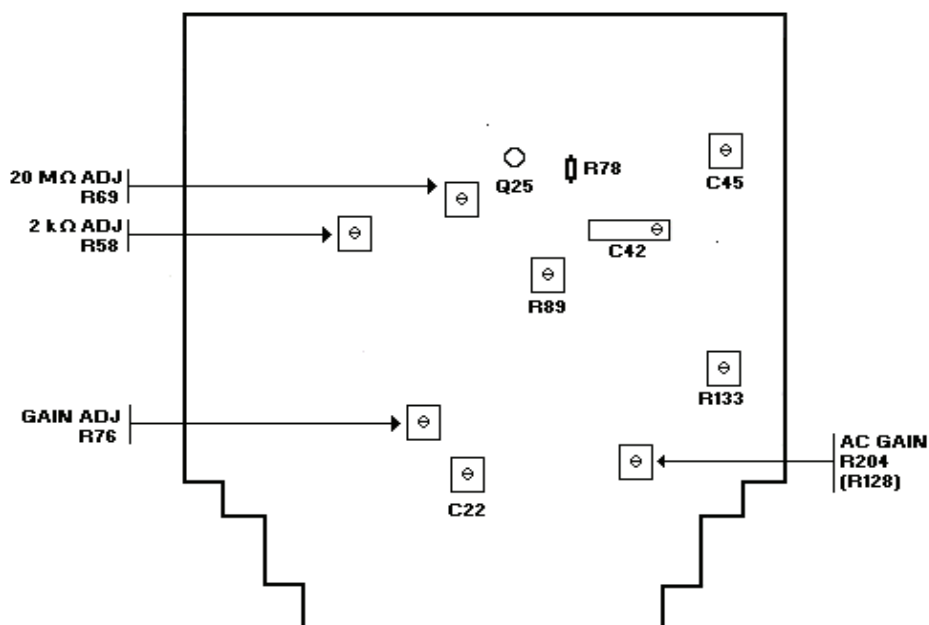

Figure 1. Adjustment locations bottom view (models 3465A and 3465B).
b. Adjustments. Adjust GAIN ADJ R76 (fig. 1) for a TI indication of 10.000 (± 3 digits) (R).
- (1) Press TI **2 k** pushbutton and disconnect calibrator from TI.
- (2) Short TI **V Ω** and **COM**.
- (3) Connect multimeter to junction of R78 and Q25 (fig. 1). Adjust 20 M Ω ADJ R69 (fig. 1) for a multimeter indication of < 500 μ V (R).
- (4) Remove short from TI **V Ω** and **COM** and disconnect multimeter.
- (5) Connect calibrator **OUTPUT HI** and **LO** to TI **V Ω** and **COM**.
- (6) Set calibrator for a 1 k Ω output and **2 wire Comp** on. Adjust 2 k Ω ADJ R58 (fig. 1) for a TI indication equal to calibrator output display rounded to TI digits of resolution (± 2 digits) (R).
- (7) Press TI **20 M** pushbutton.
- (8) Set calibrator **2 wire Comp** off and output to 10 M Ω . Adjust 20 M Ω ADJ R69 (fig. 1) for a TI indication equal to calibrator output display rounded to TI digits of resolution (± 1 digit) (R).
- (9) Press TI **2 k** pushbutton.
- (10) Repeat (6) through (9) above for best compromise.
- (1) Set calibrator to **STANDBY**.
- (2) Press TI **2** pushbutton.
- (3) Set calibrator for a 1 V, 200 Hz output. Adjust AC GAIN R204 (R128) (fig. 1) for a 1.0000 TI indication (R).
- (4) Set calibrator for a 100 mV, 200 Hz output.
- (5) Press TI **200 m** pushbutton. Adjust R133 (fig. 1) for a 100.00 TI indication (R).
- (6) Press TI **2** pushbutton.
- (7) Set calibrator for a 100 mV, 20 kHz output. Adjust C45 (fig. 1) for a .1000 (± 1 digit) TI indication (R).
- (8) Press TI **200 m** pushbutton. Adjust C42 (fig. 1) for a 100.04 (± 1 digit) TI indication (R).
- (9) Press TI **20** pushbutton.
- (10) Set calibrator for a 10 V, 20 kHz output. Adjust C22 (fig. 1) for a 10.008 (± 1 digit) TI indication (R).
- c. Set calibrator for a 1 V dc output. If TI does not indicate 1.0000, adjust R89 (fig. 1) for a 1.0000 TI indication (R).